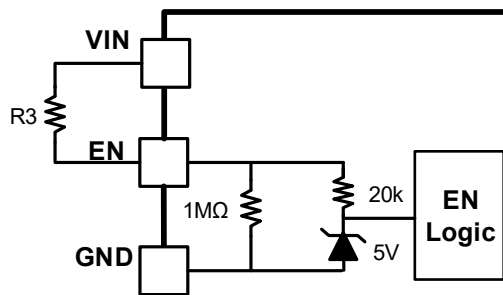

Figure 7. Adjustable VIN UVLO
An internal 1MΩ resistor from EN to GND allow EN float to shut down the chip. EN is clamped internally using a 5V series diode. For applications where a specified VIN UVLO voltage needs to be set, EN connects a resistor R3 to VIN to form a voltage divider with a 1M resistor inside the chip for the configuration of VIN UVLO voltage, as shown in Figure 7. The resistor distributor R3 is calculated by Equation (3).